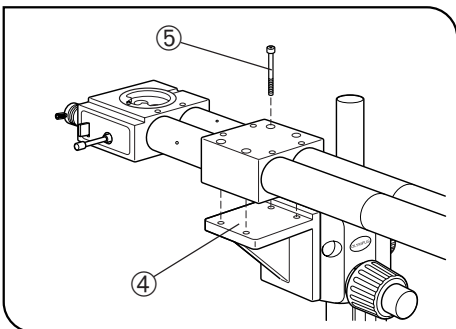

Fig. 8
6. Place the SZX-SDO side-by-side viewing attachment on the mount ④ so that the secondary observer's position is on the right side (as shown in Figure 8). Insert the 4 clamping screws ⑤ provided with the SZX-SDO attachment into the 4 screw holes and tighten using the Allen wrench (large) provided with the SZX-SDO attachment. (Fig. 8)